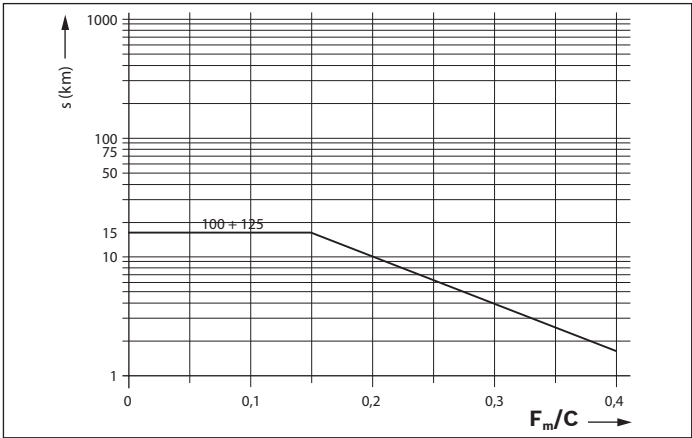

Fig. 18
- Apply the minimum quantity according to table 15 at the lube connection until the relubrication interval (figure 18) has been reached.
The lubricating cycle time is then the result of dividing the relubrication interval (according to figure 18) by the determined number of pulses.